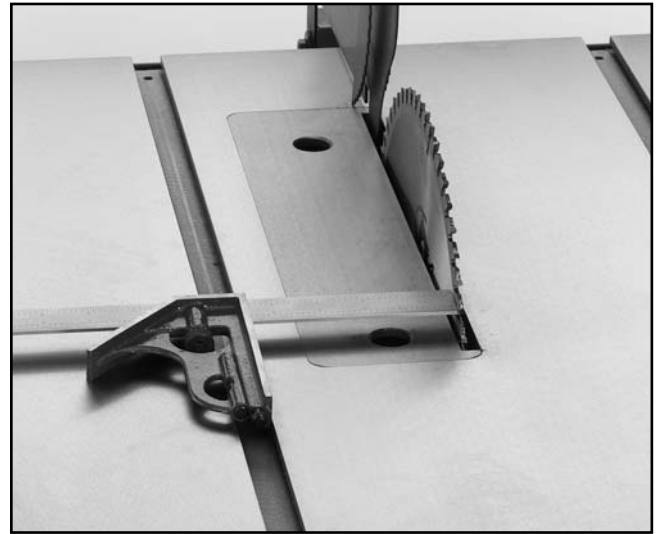

Figure 22. Adjusting blade to miter slot after rotating blade 180° and sliding square down miter slot.
4. Measure the distance from the mark on the blade to the edge of the miter slot. See **Figure 22**.